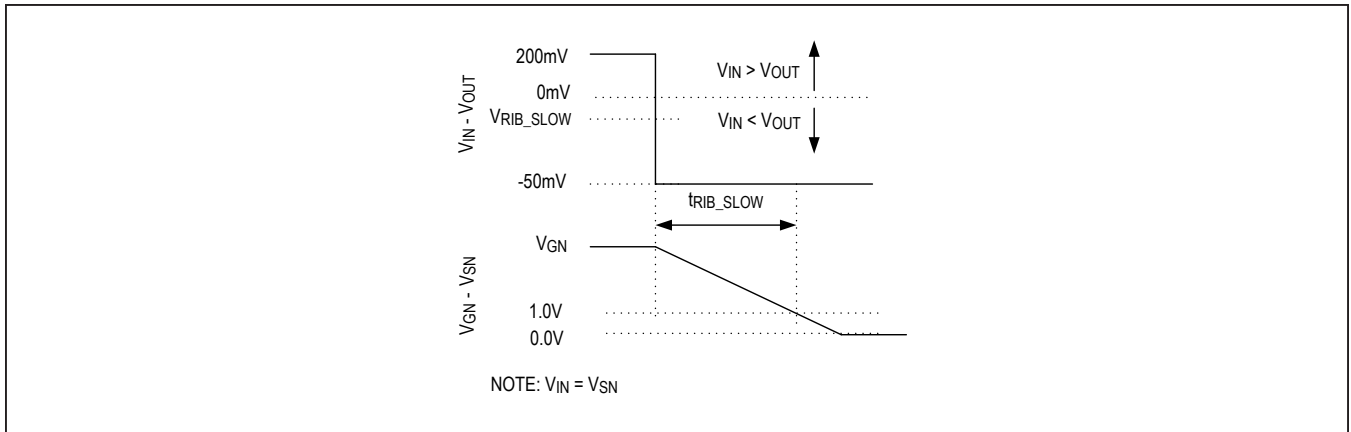

Figure 1. Slow Reverse-Current-Blocking Response Time
**Note 4:** Time from  $V_{IN} - V_{OUT}$  voltage transition from 200mV to -50mV until GN pin voltage falls to  $V_{SN} + 1\text{V}$  (Figure 1).